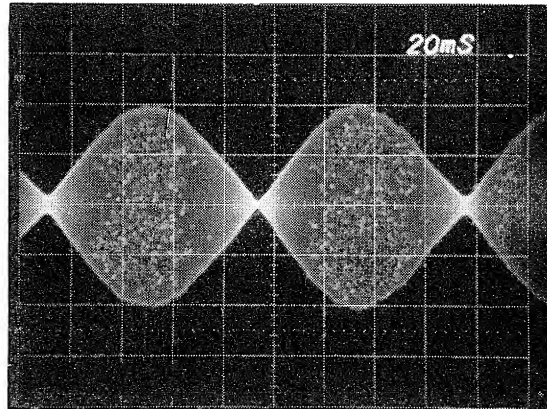

FIGURE 9 HEAD RADIAL ALIGNMENT
- e. The two lobes must be within 70% amplitude of each other. If the lobes do not fall within the specification, continue on with the procedure. Reference Figure 9.
- h. When the lobes are of equal amplitude, tighten the motor clamp mounting screws. Reference Figure 9.